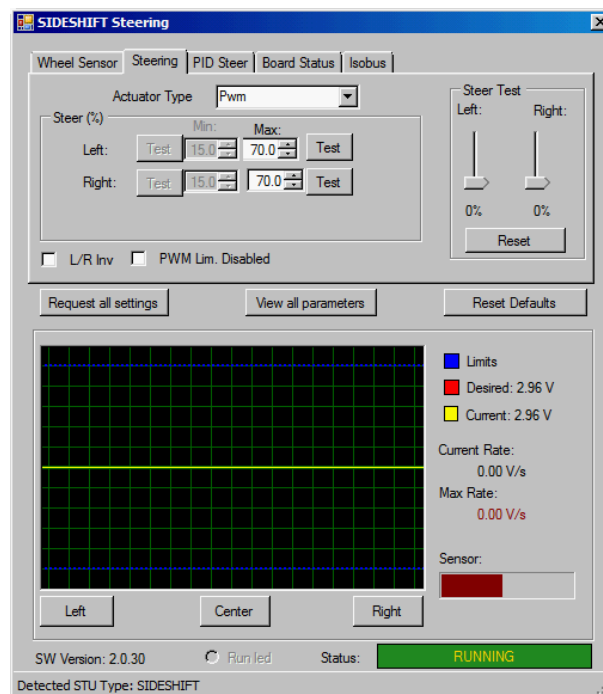

Figure 23 CANTool tablad Steering On/Off
2. Go to tab "Steering" (Figure 23). Check if steer left makes the cylinder steer left, if not mark the "L/R Inv" check box.